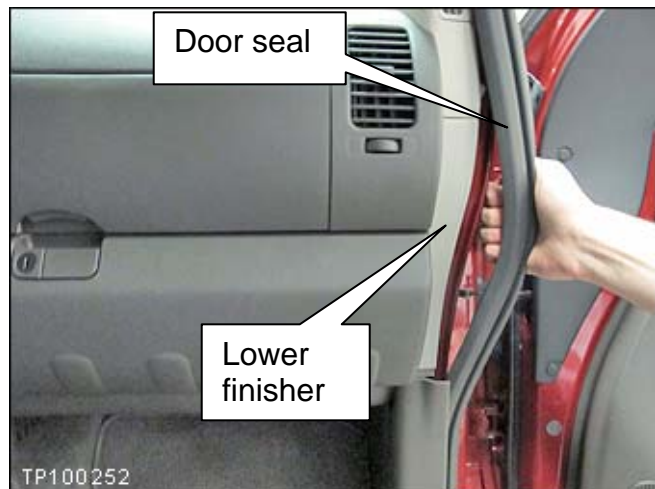

Figure 7
9. Pull the passenger side front door seal loose in the area shown in Figure 7.